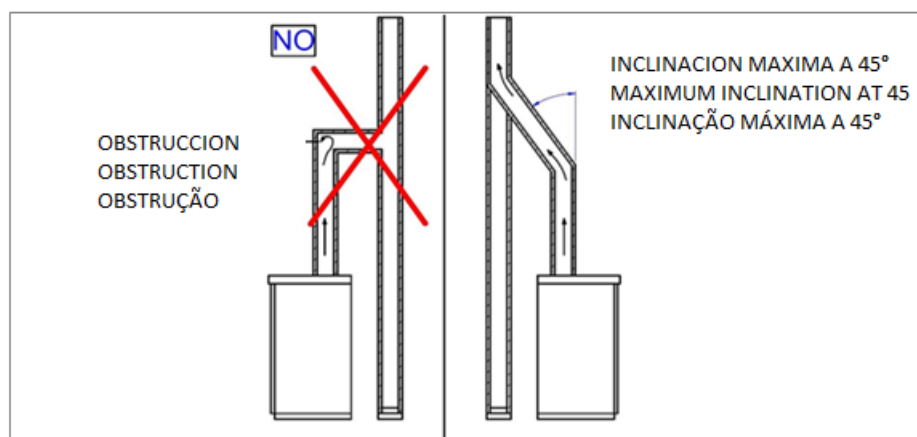

Figure 3
4. In the case of the mouth of the flue to an existing chimney that is not perfectly perpendicular to the smoke outlet of the home or for those cases in which the exit to the outside is made through the façade, the connection of the ducts must be made with the corresponding sloped joint. The inclination, with respect to the vertical, may not exceed 45° and must not suffer narrowing (See figure 3). For this purpose, approved 45° bends or elbows must be used. In addition, it is required that said curve be used from a minimum length of 2 m from the stove smoke outlet.